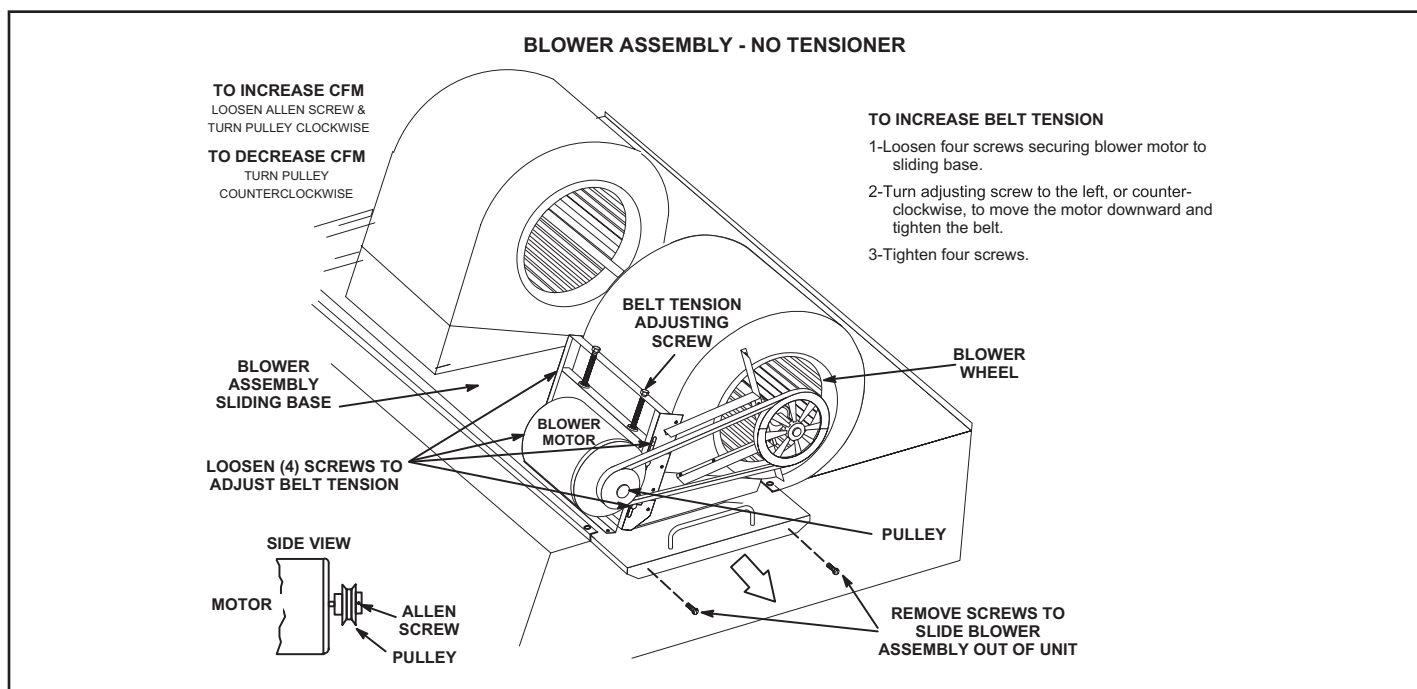
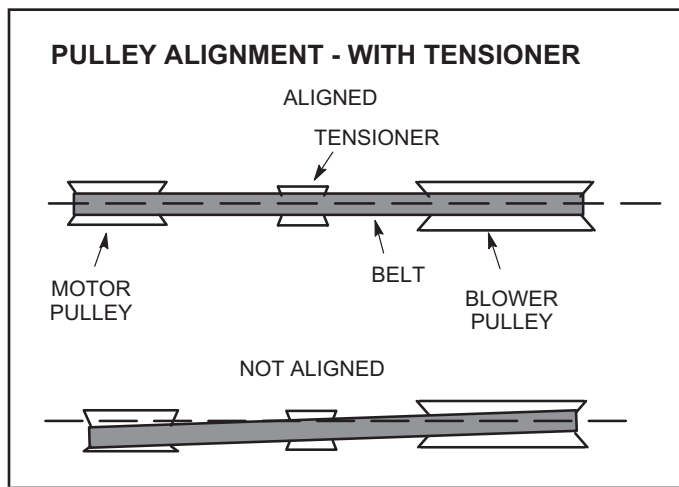

FIGURE 14
FIGURE 16
The blower compartment is located between the evaporator coil and the compressor / control section on the opposite side of the condenser coil. The blower assembly is accessed by disconnecting the blower motor wiring (and all other plugs) and removing the screws on either side of the sliding base. The base pulls out as shown in FIGURE 14.
2. Remove screws on either side of blower assembly sliding base. See FIGURE 14.
Maximum life and wear can be obtained from belts only if proper pulley alignment and belt tension are maintained. Tension new belts after a 24-48 hour period of operation. This will allow belt to stretch and seat into pulley grooves. Make sure blower and motor pulley are aligned. See FIGURE 14 for blowers not equipped with a tensioner and FIGURE 16 for units equipped with an optional belt tensioner.
1. Loosen four screws securing blower motor to sliding base. See FIGURE 14.